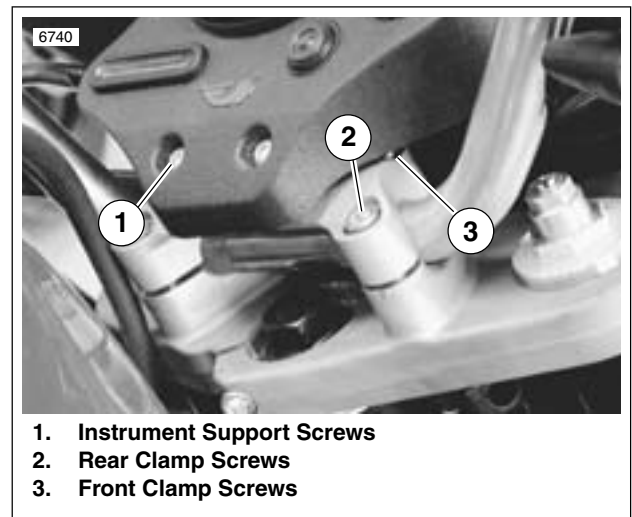

Figure 1-55. Handlebar Clamps (Typical)
- b. See Figure 1-55. Detach instrument support by removing both instrument support screws (1).
5. See Figure 1-55. Install instrument support using two screws (1). Tighten to 7-9 ft-lbs (10-12 Nm).